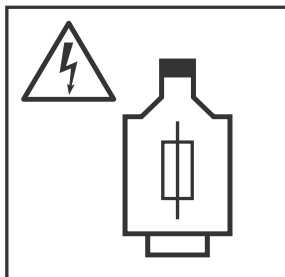

Fig.: 11
2. Allow for fuses for each individual phase (fig.11, See Pg 7)